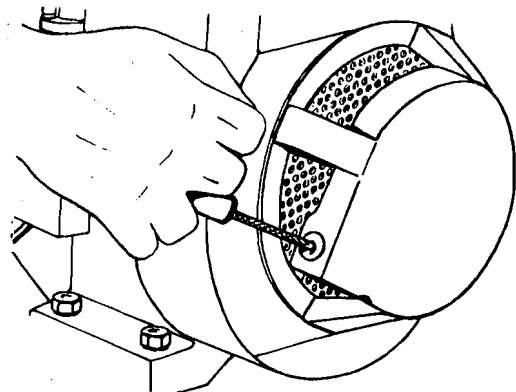

FIG. 6
3. Grasp recoil starter handle and pull sharply. DO NOT allow starter rope to snap back. Rewind slowly, keeping hold of the starter handle at all times, as shown in Figure 6.